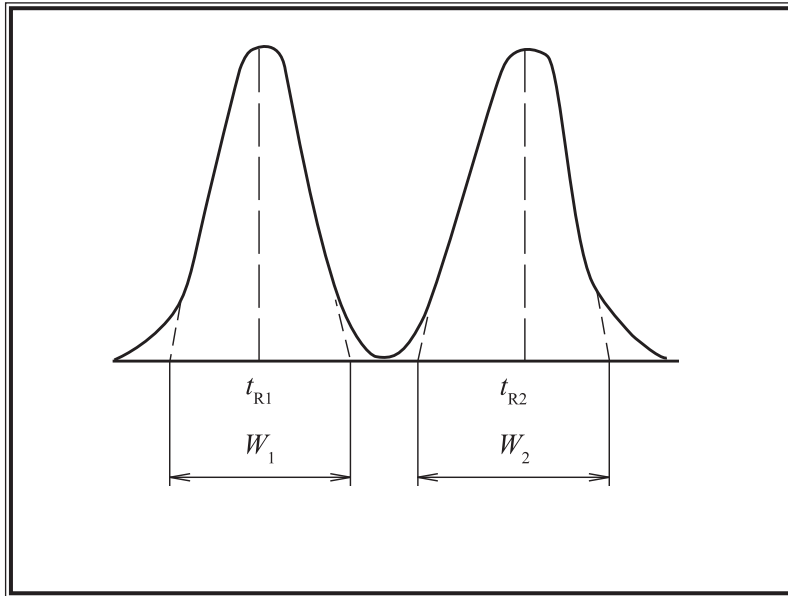

Figure 1 Parameters for calculation of resolution factor ( $R$ )
- (c) **Resolution factor (*R*)** – To ensure the accuracy of quantitative analysis, the *R* value (Fig. 1) of the analyte peak with the adjacent peak must be larger than 1.5, unless otherwise specified. The *R* value is calculated by using the following equation –